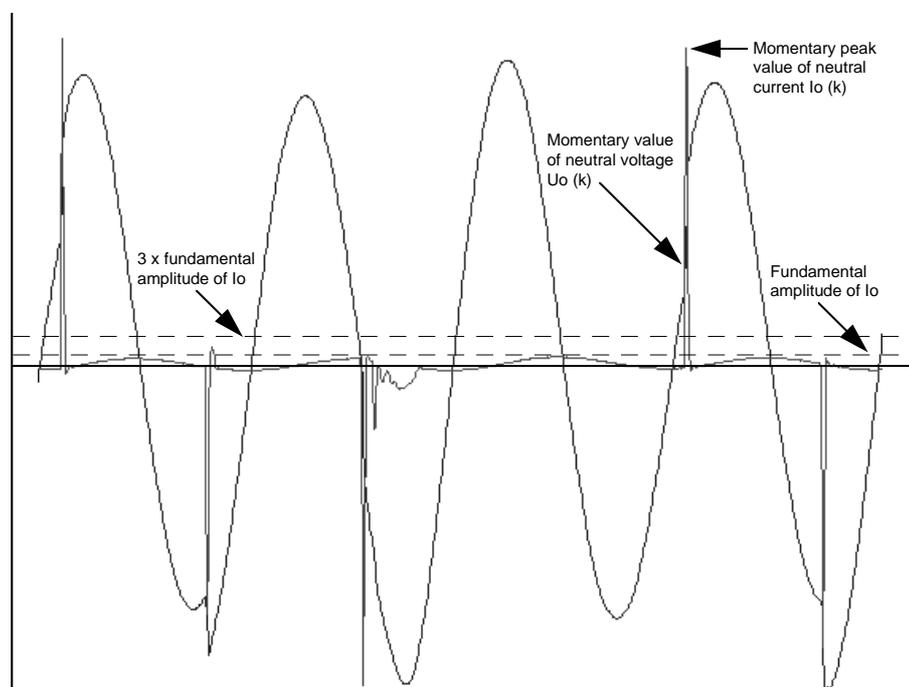

Figure 2.3.3.-1 Intermittent earth-fault in the protected area
EFSIGN, which is the result of the multiplication of momentary values $U_0(k) \times I_0(k)$ (see Figure 2.3.3.-1), increments or decrements a cumulative counter of strikes. If two strikes are counted in forward direction, intermittent earth-fault is detected. The intermittent earth-fault can start the protection if the voltage amplitude exceeds its setting, even if the phase angle between the neutral current and the residual voltage is not within the operation area of the characteristic used. The intermittent earth-fault protection can only be used in a compensated network and with the definite-time (DT) operation. It is recommended that the fundamental frequency measurement mode with the intermittent protection is used.